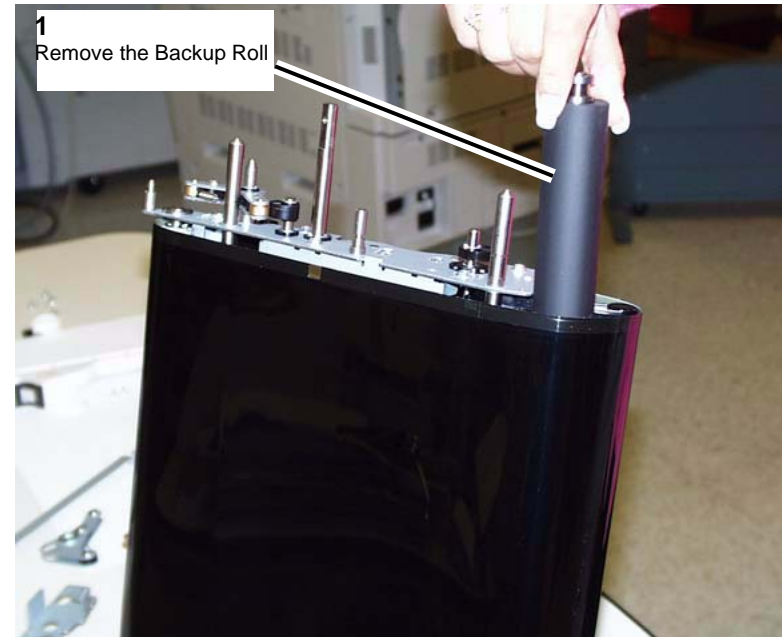

Figure 10 Removing the Backup Roll
14. Remove the Backup Roll. (Figure 10)